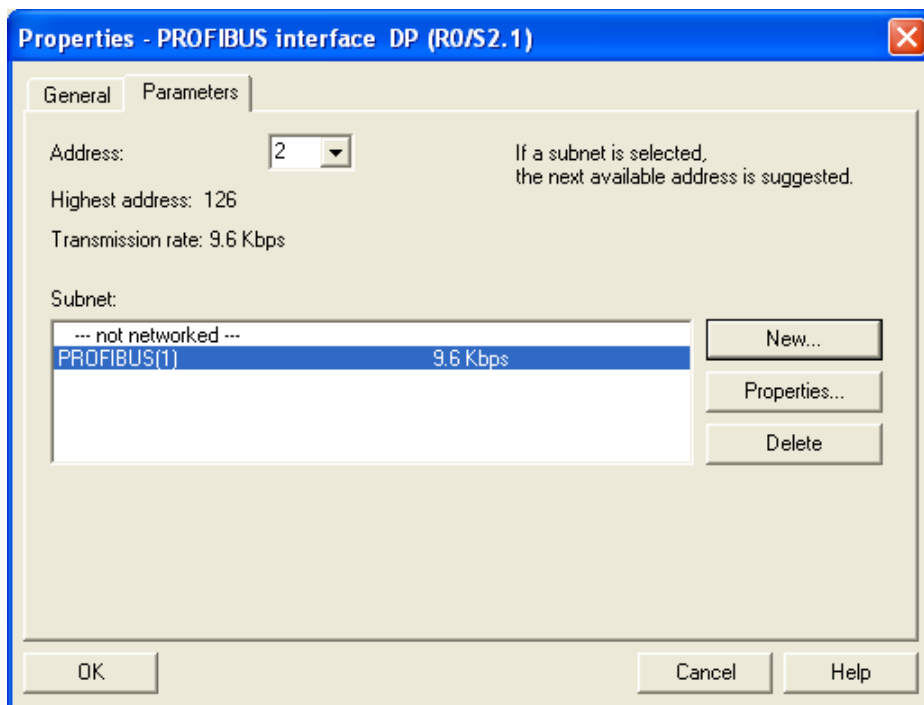

Figure 7-14
6. Confirm the communication speed and the master address for PROFIBUS DP bus, then click “OK”. See Figure 7-14.